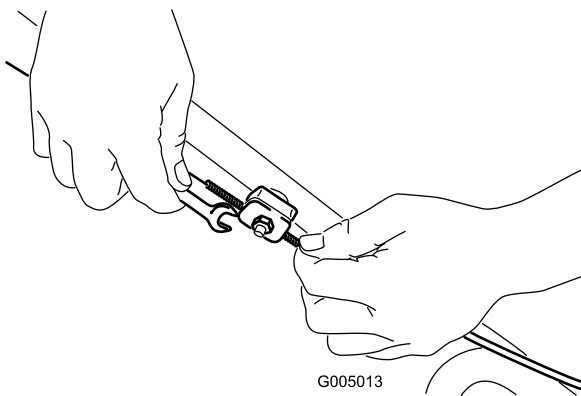

Figure 21
1. Loosen the cable support nut (Figure 21).